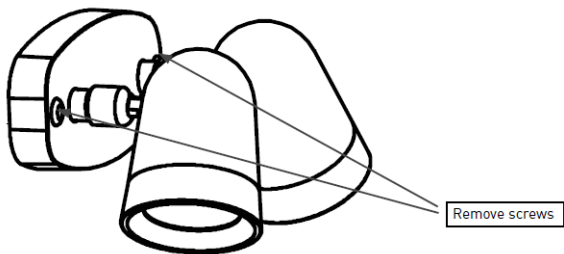

Fig. 1
- Remove the two screws from the front of the fitting and remove the baseplate (see Fig. 1)